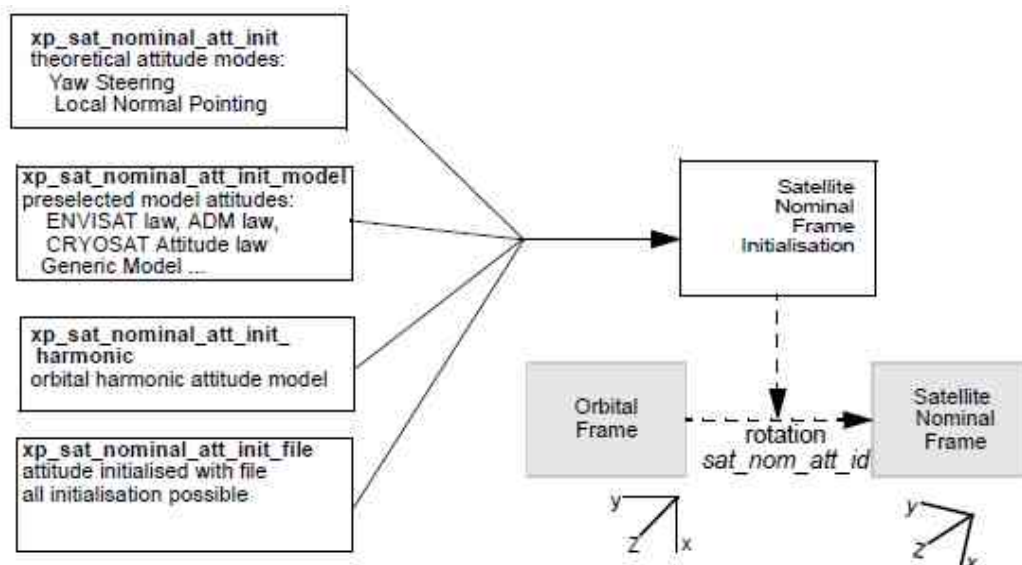
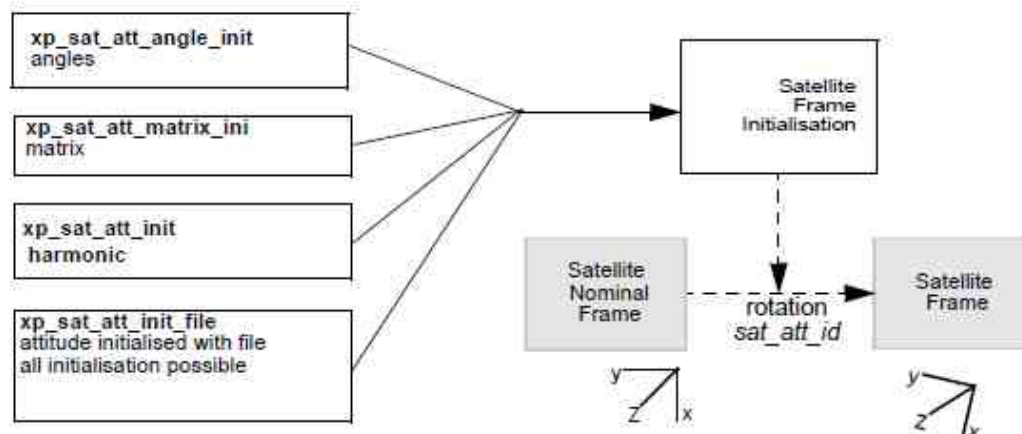
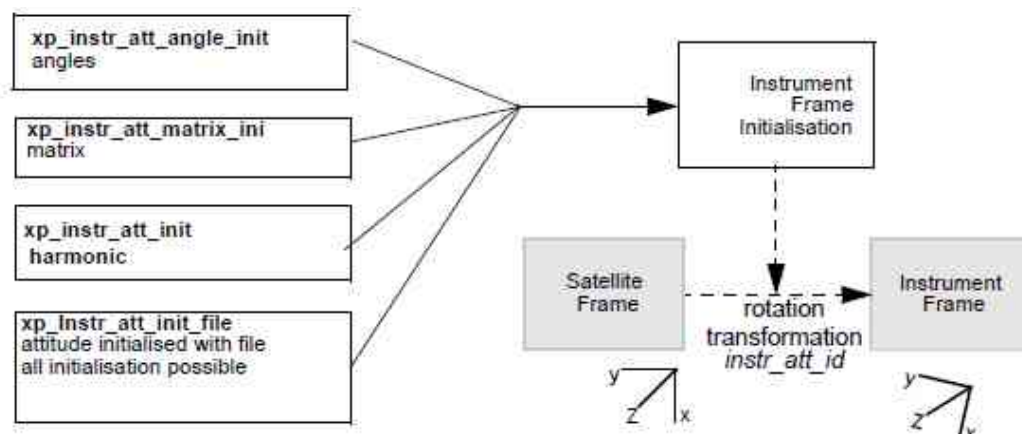

Figure 6: Satellite Nominal Initialisation
Figure 7: Satellite Initialisation
Figure 8: Instrument Initialisation
- Instrument Attitude FrameEach of the frames is defined independently and produce a CFI Id where the initialisation parameters are stored. Note that not all attitude frames has to be defined. There are a set of functions to initialise each frame depending on the type of parameters used to establish the reference frame (see Figure 6, Figure 7 and Figure 8)